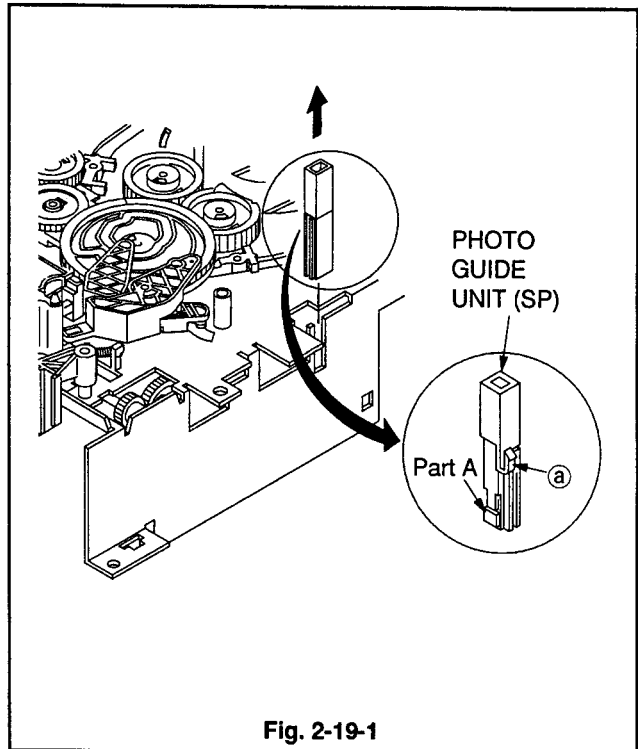

Fig. 2-19-1
1. Use tweezers to unfasten Catch (a) of the PHOTO GUIDE UNIT (SP), shown in Fig. 2-19-1, and remove the PHOTO GUIDE UNIT (SP) in the direction shown by arrow.
2. Push the PHOTO GUIDE UNIT (SP) into the DECK so that the Catch (a) is hooked, with the Part A shown in Fig. 2-19-1 toward the inside of DECK.